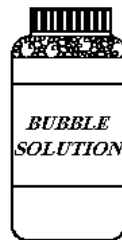

Fig. 7
**Bubble Solution or Electronic Leak Detector** – Bubble solution is the recommended means of checking for high-side leaks after repairing a pressurized sealed system. (Fig. 7) An electronic leak detector will also detect the presence of any refrigerant escaping from the sealed system. (Fig. 8)